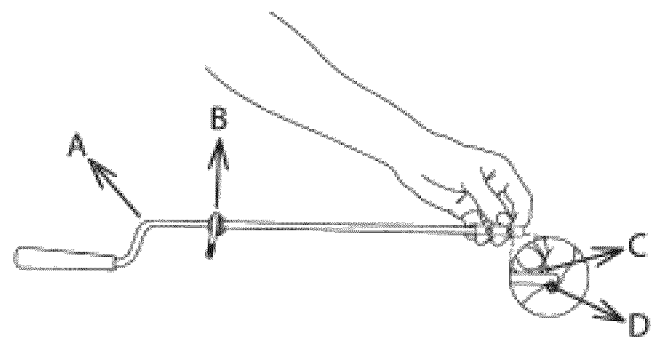

Figure 13
3. Locate the upper chute crank in the parts bag. Remove the lower screw and nut from the upper chute crank using a Phillips screwdriver and the wrench provided (Fig. 13).